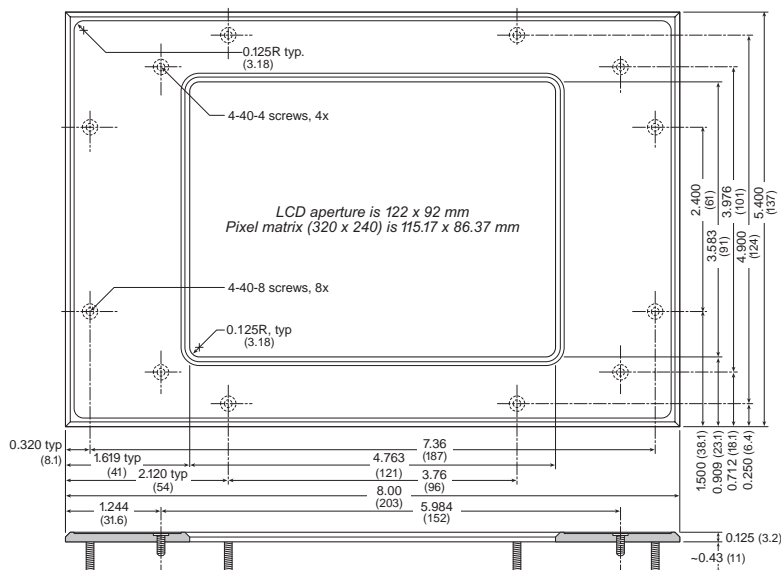
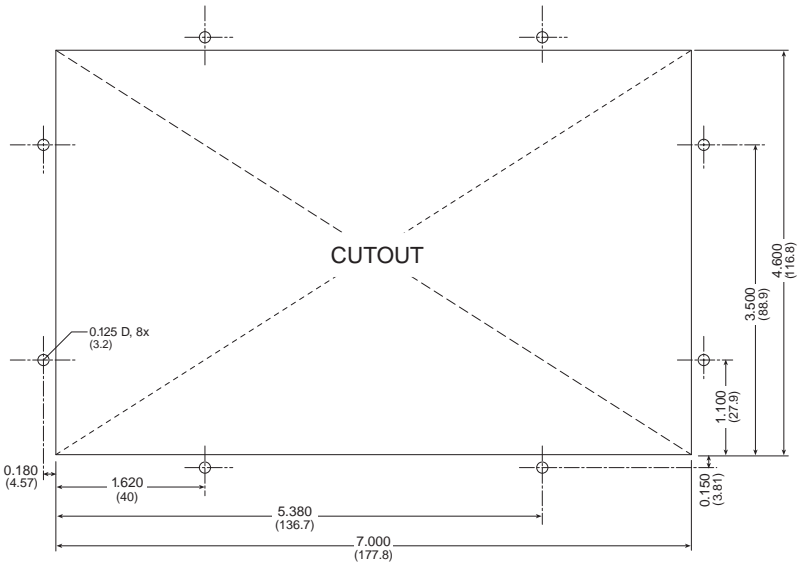

Figure 6-1. OP7100 Bezel Mounting
Figure 6-2: Recommended Cutout for LCD
This section describes and illustrates how to bezel mount the OP7100. Cut a hole in the mounting panel in accordance with the recommended dimensions (see Figure 6-1), then use the bezel faceplate to mount the OP7100 onto the panel. Figure 6-2 shows the recommended cutout.
1. Machine an opening in the control panel in accordance with the dimensions recommended in Figure 6-1.